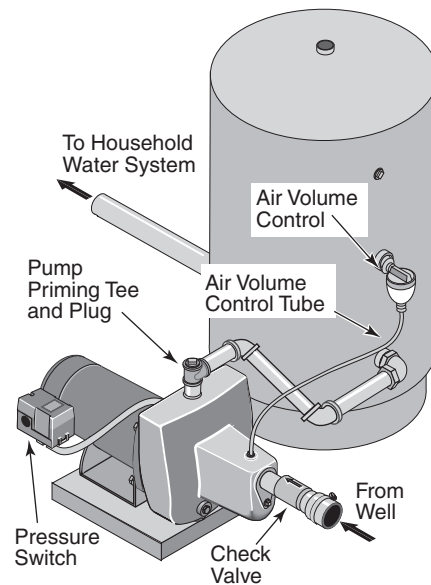

Figure 5: Standard Tank Connections
STANDARD TANK CONNECTION (FIGURE 5)
1. Install one tee in the pump discharge port (see Figure 5).
3. Remove the 1/8" NPT pipe plug from the pump Air Volume Control (AVC) port (see Figure 5). Run tubing from the pump's AVC port (see Figure 5) to the port on the AVC mounted on the tank. See instructions provided with tank and AVC for details. AVC port location will vary, depending on your pump model (see exploded view, Page 11).